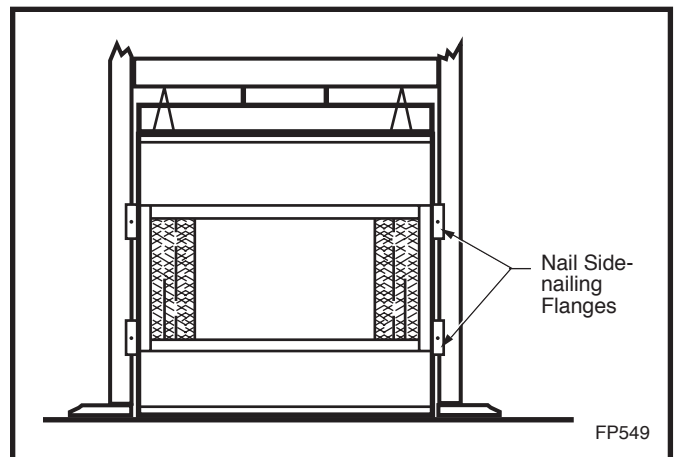

Fig. 17 Fasten fireplace in position.
Four (4) nailing flanges are supplied with the fireplace (found on the fireplace hearth). To level the box and secure it firmly in place, remove the nailing flanges from the hearth and install at the sides of the fireplace as shown in Figure 17.